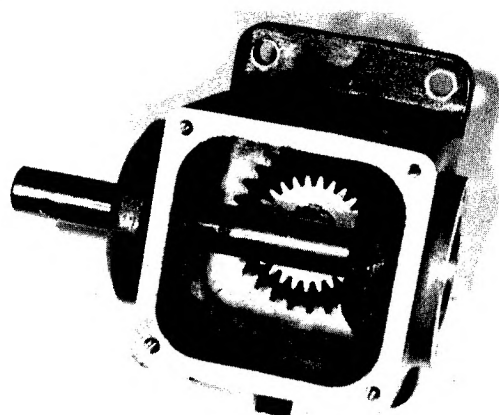

FIG. 10.15--INPUT SHAFT POSITIONED IN GEAR-BOX
20. Insert input shaft into gearbox and through gear with key. Fig. 10.15.